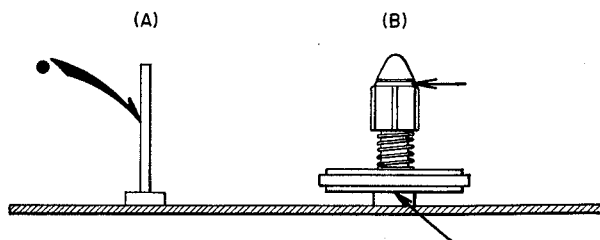

Fig. 15
**(10) REEL TABLE ADJUSTMENT (See Fig. 15)**